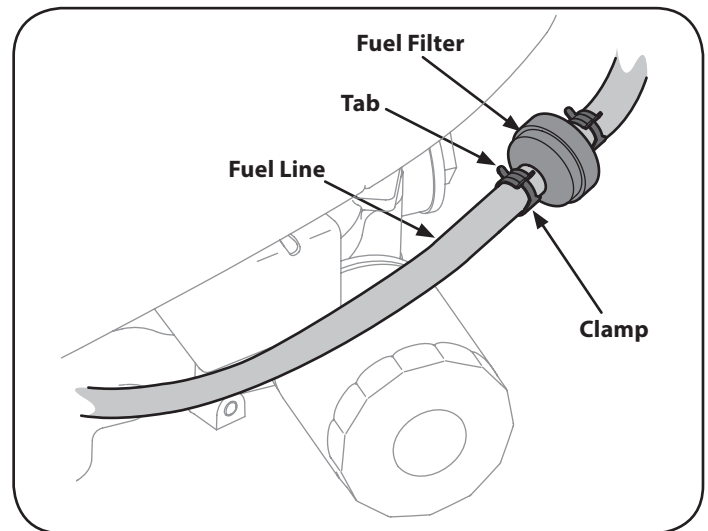

Figure 13
1. Use pliers to squeeze the tabs on the other clamp (the out-line side of the fuel filter), then slide the clamp away from the fuel filter. Twist and pull the fuel line off of the fuel filter. See Figure 13.